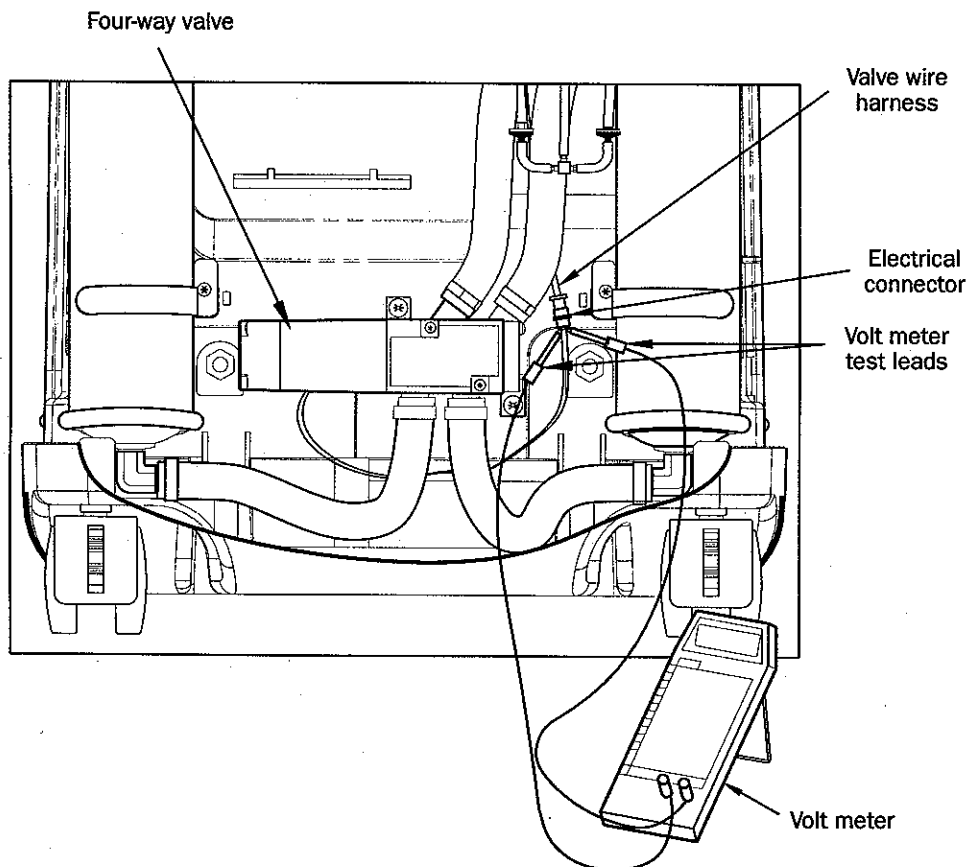

Figure 41
4. Place the test leads of a volt meter on the four-way wires in the electrical connector (refer to test position, Figure 41). Approximately 12 VDC should be measured while the green “4-way” indicator light on the PC board illuminates (voltage is supplied until accumulator tank pressure reaches 15 PSI). If no voltage is present at the terminals, check continuity of the brown and purple wires leading back to the PC board. If the wires are good, replace the PC board.